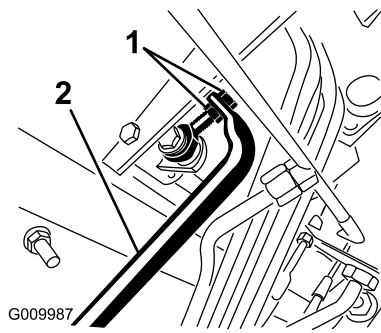

Figure 52
5. Adjust the jam nuts on the pump rod end to move the pump control tube forward to eliminate forward creep or rearward to eliminate rearward creep (Figure 52).